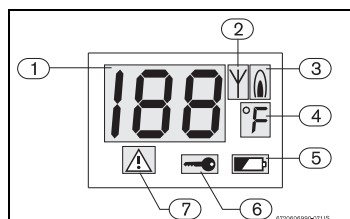

Fig. 10 Multifunctional LCD
This device has an error message system. Any errors that the heater generates will be indicated by an error code that will appear on the display (Fig. 10, pos. 1) and by a symbol indicating a "safety block" (Fig. 10, pos. 7). The remote control will be operative only after pressing the reset button on the heater and clearing the error.
When batteries are weak, the low battery symbol (Fig. 10, pos. 5) will appear on the display.
- ▶ With no hot water running, press and hold the " " or " " buttons for 5 seconds on the locked out device (remote or water heater) until the "  " symbol (Fig. 10, Pos. 6) disappears.